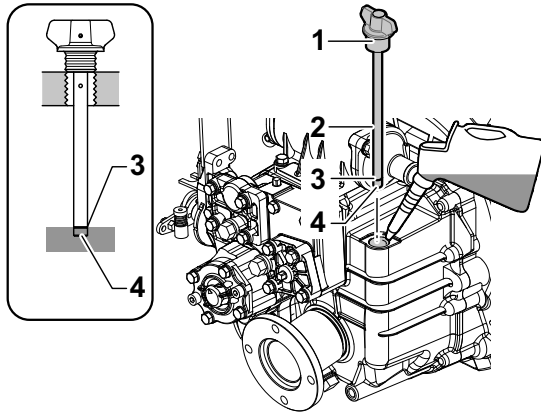

Figure 7
2. Remove the filler cap (**Figure 7, (1)**) at the top of the housing.
3. Remove dipstick (**Figure 7, (2)**) and wipe with clean cloth.
4. Re- insert the dipstick without screw in. See the illustration (**Figure 7**).
5. Remove dipstick. The oil level should be between upper (**Figure 7, (3)**) and lower (**Figure 7, (4)**) lines on the dipstick.
3. Fill with oil to the upper limit on the dipstick (**Figure 7, (3)**). See *Marine Gear Oil Specifications* on page 43.